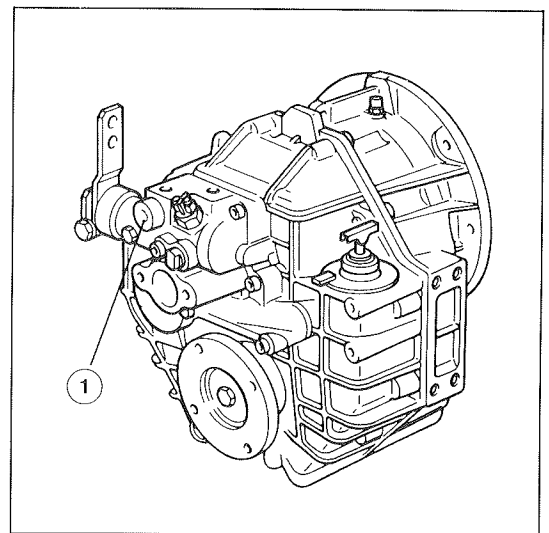

Figure 2
The control block has a threaded hole R 3/8" NPSF for connecting a temperature gauge to check the temperature of the transmission fluid (Figure 2, item 1). The threaded hole is closed by a plug at time of delivery of the transmission.